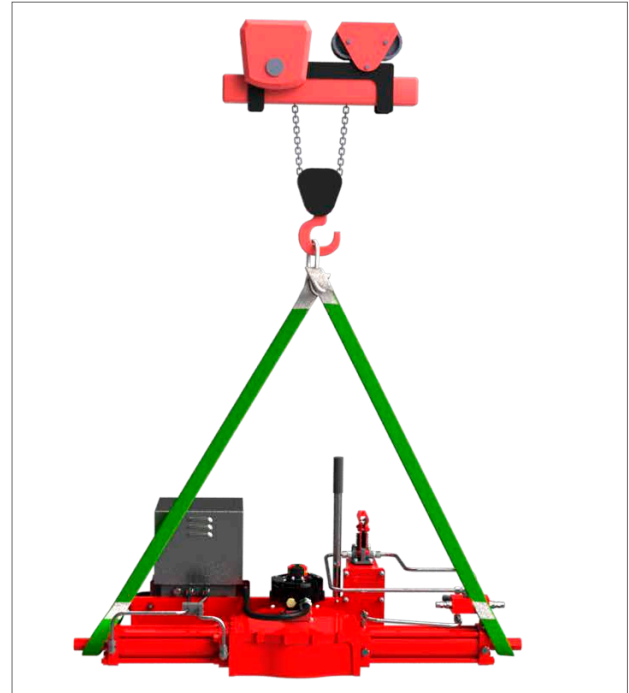

Fig 7.1 Lifting
- Place the textile eye slings as shown in Fig 7.1